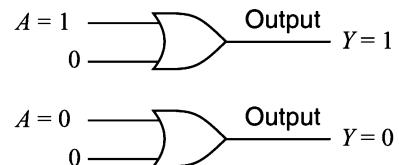

Fig. 26.18
**Theorem 1.** ( $A + 0 = A$ ). This theorem can be verified by ORing a variable  $A$  with a 0 and is illustrated in Fig. 26.18. Here one input to OR gate is always 0 and the other input  $A$  can be a value 1 or 0. When  $A$  is at 1, the output is 1 which is equal to  $A$ . When  $A$  is at 0, the output is 0 which is also equal to  $A$  ( $= 0$ ). Therefore, a variable ORed with 0 is equal to the value of the variable. This is easy to remember since 0 added to anything does not effect the value of the variable, either in regular addition or OR addition.